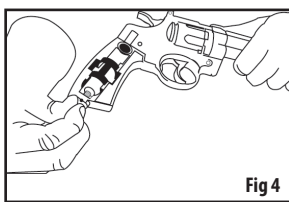

Fig 3
- Locate the safety below the rear sight. (Fig. 3) Pull the hammer back slightly and with your other hand, push the safety from the left side all the way in. The safety is not "On Safe" unless it is pushed all the way in and the RED mark on the left side of the safety is NOT showing.